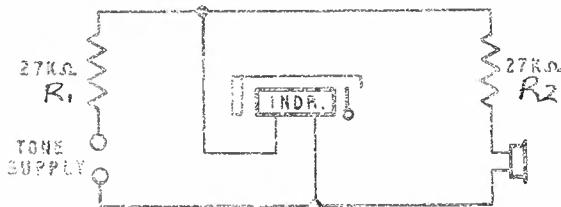

FIG. 1.
- STEP 1. Connect the circuit as shown in Fig. 1, using a modern type clearing indicator. Note the volume of tone in the receiver.